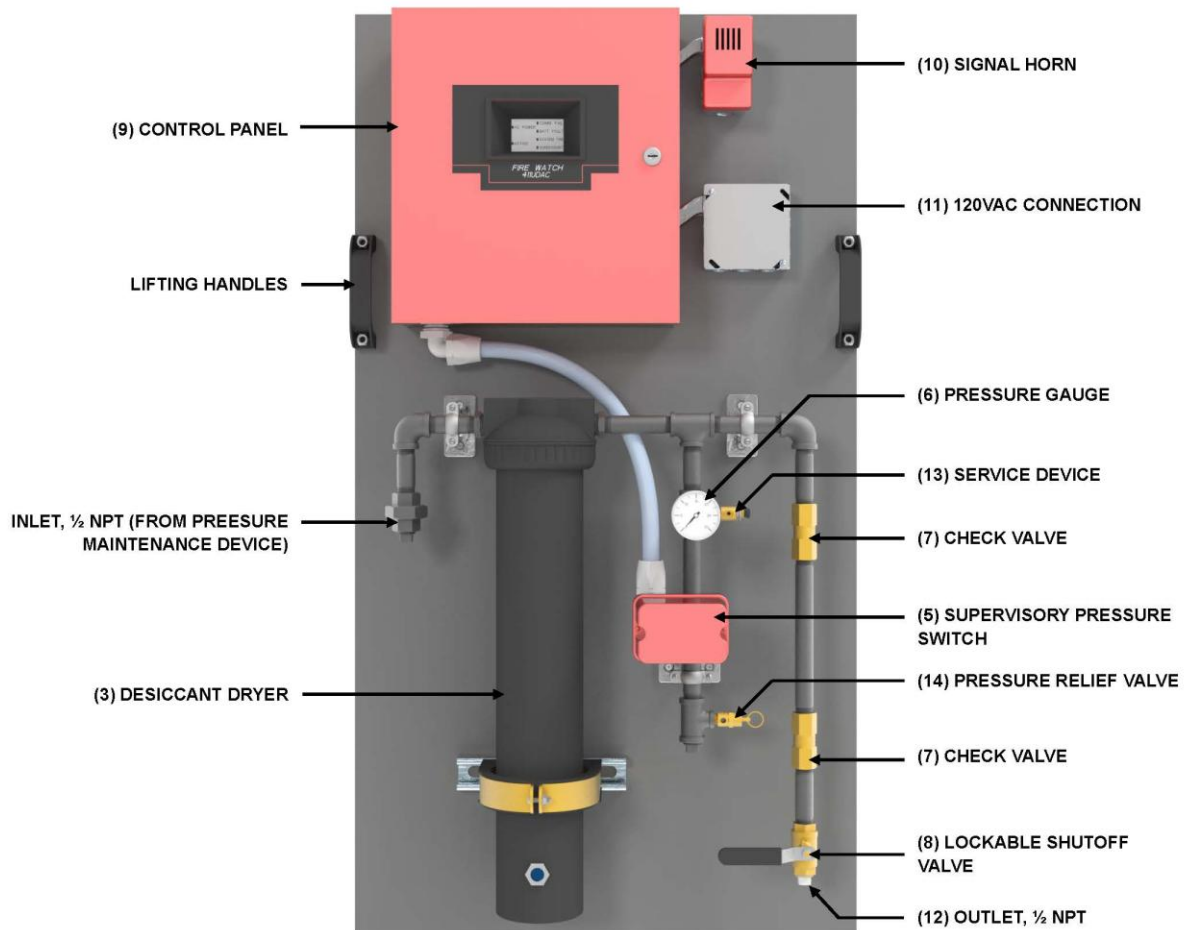

Figure 1 – **STANDPIPE-PAC™** SSS-100-XL1
1.3. Functional Description. See Figures 1, 2, 3, and 4. **STANDPIPE-PAC™** consists of the following: